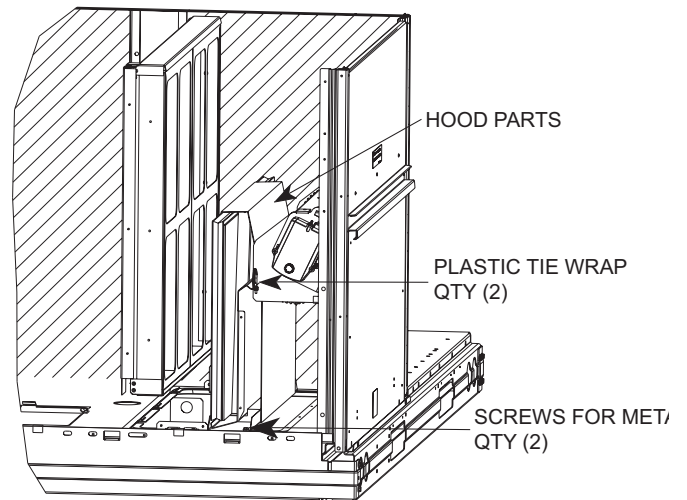

Fig. 16 — Economizer Hood Parts Location
3. Locate the 2 screws holding the metal tray to the basepan and remove. Locate and cut the 2 plastic tie-wraps securing the assembly to the damper. (See Fig. 16.) Be careful to not damage any wiring or cut tie-wraps securing any wiring.